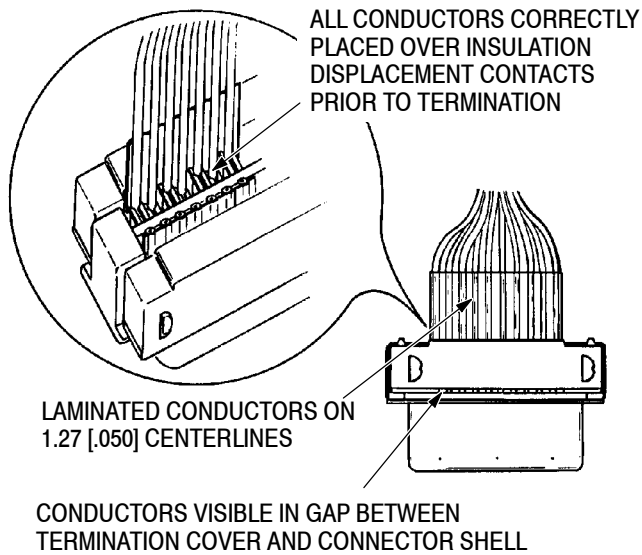

Figure 5
4. Visually examine the connector for correct placement of conductors over insulation displacement contacts by looking at the gap between each termination cover and the connector housing flange. Conductors should be visible in the gap. See Figure 5.